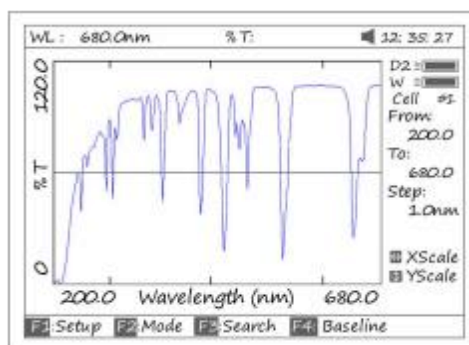

Fig 14
1. The key **【ENTER】** be pressed, the file selected will be loaded and displays on the screen. Fig 14.
- ✧ Press the key **【SAVE】** in Fig14 to save curve.